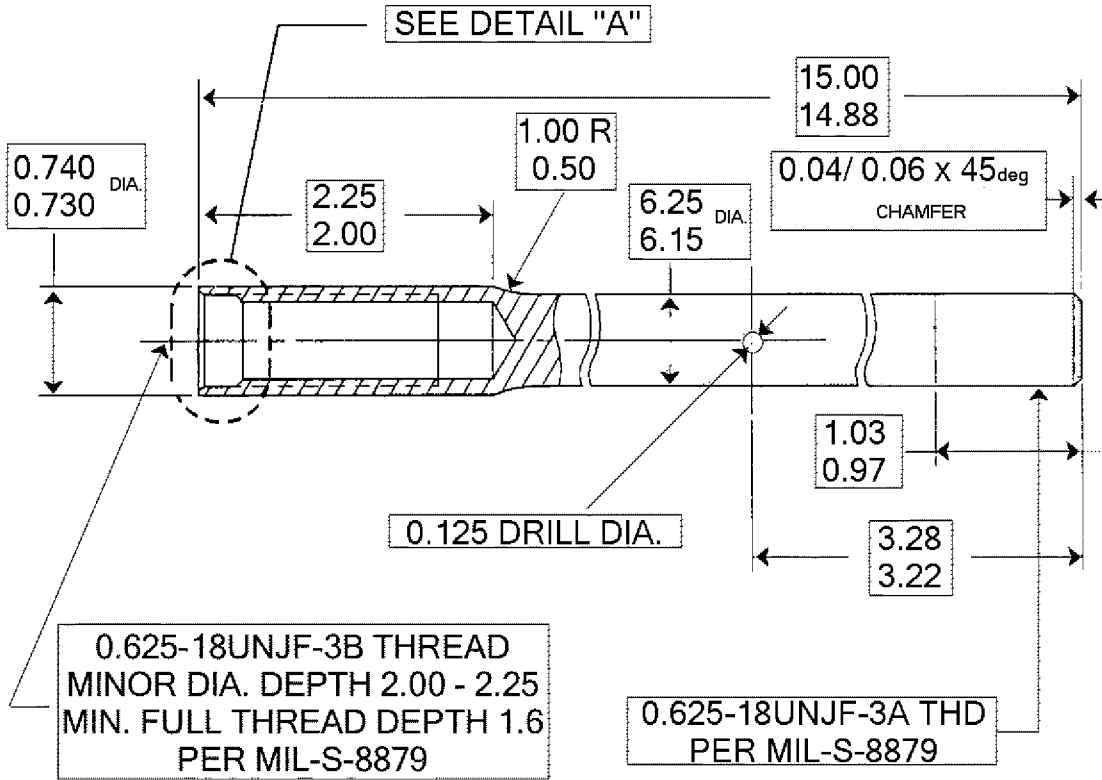

Figure 1. Fabrication of Expandable Pin Cleaning Tool
- (1) Fabricate expandable pin cleaning tool per Figures 1, 2 and 3.
- (2) Make tool from any one of the following materials:
- (3) Surface finish to be 63RMS or better.
- (4) Break sharp edges 0.005 - 0.015" radius or chamfer optional.